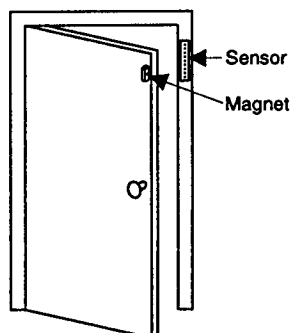

Figure 1. Sensor and Magnet Locations
- Mount the sensor on the door frame and the magnet on the door (see Figure 1). If the sensor is to be used on double doors, mount the sensor on the least-used door and the magnet on the other door.